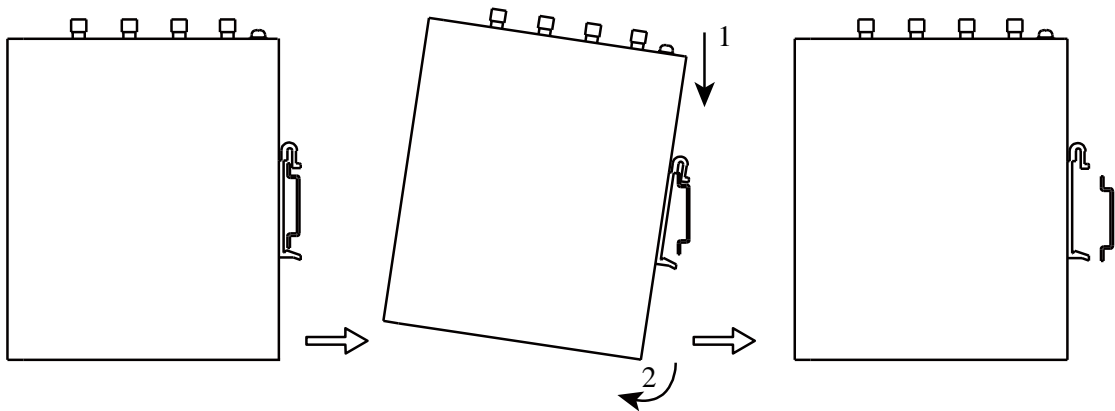

Figure 3-2 DIN rail disassembly schematic diagram
Step 1: Press the device downward in the direction indicated by arrow 1 in Figure 3-2 to create a gap near the lower end of the device so that the device isolates from the DIN rail.